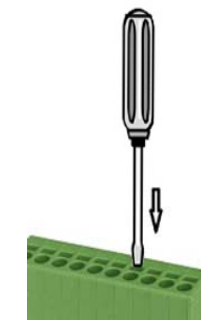

Figure 4 - System Cable Connections
- Using a device such as a small screwdriver, push down on the internal lever directly above the clamp (circular hole) (see Figure 4).